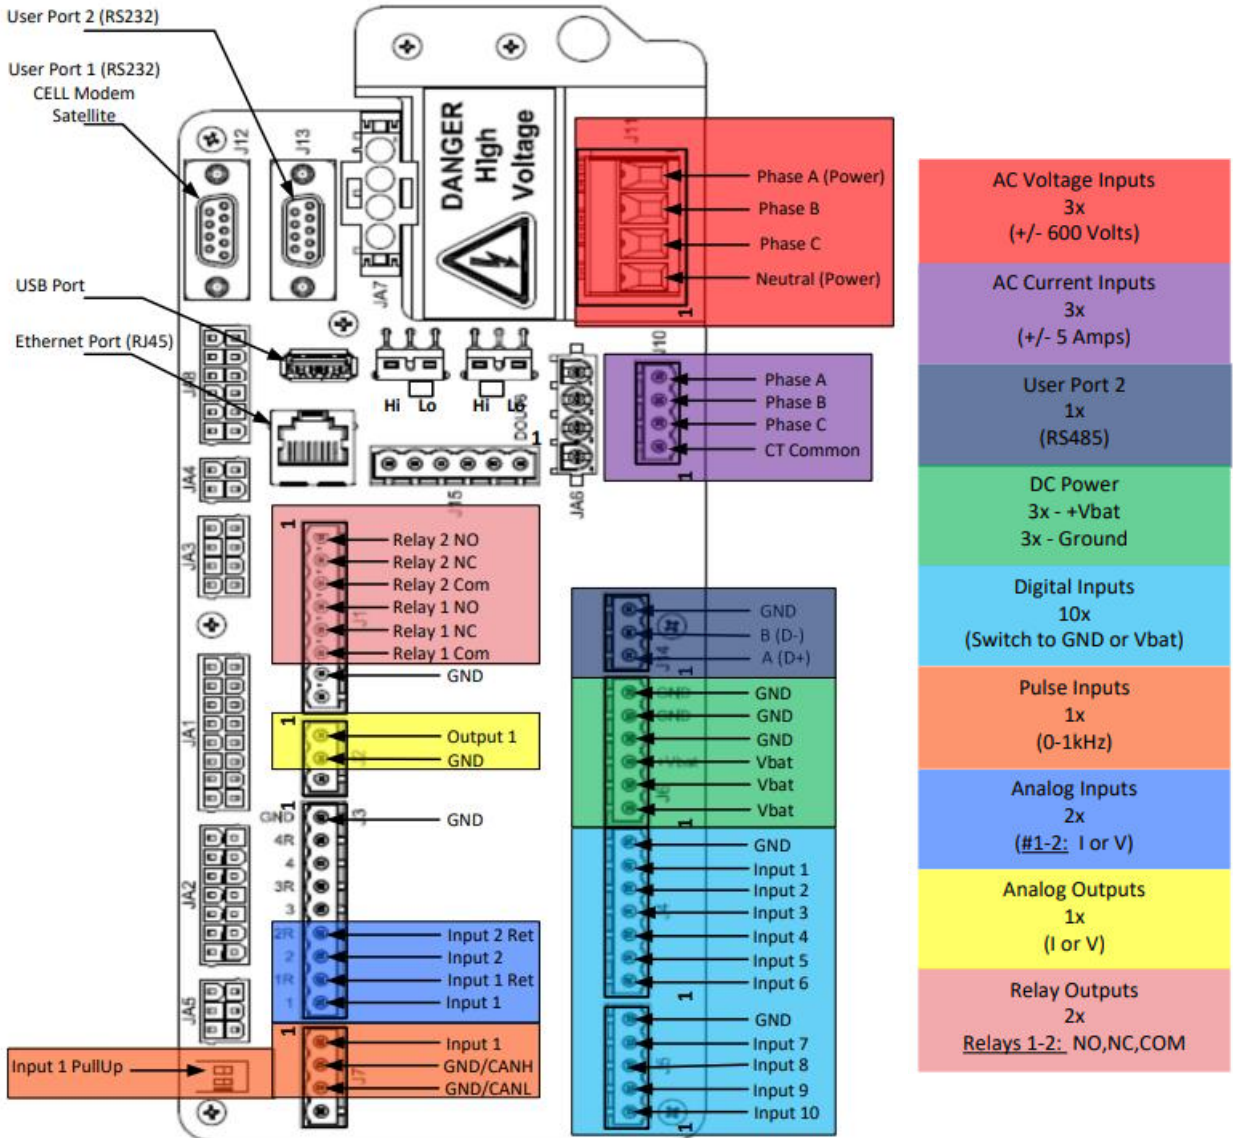

Figure 1
2. Wire I/O connections using the screw terminals on the quick disconnect plugs in their respective channels and connect the black terminal to the back-up battery. See **Figure 1** for a quick reference diagram. For more detailed information, reference the schematic drawings and online manual found at [www.cattron.com](http://www.cattron.com).